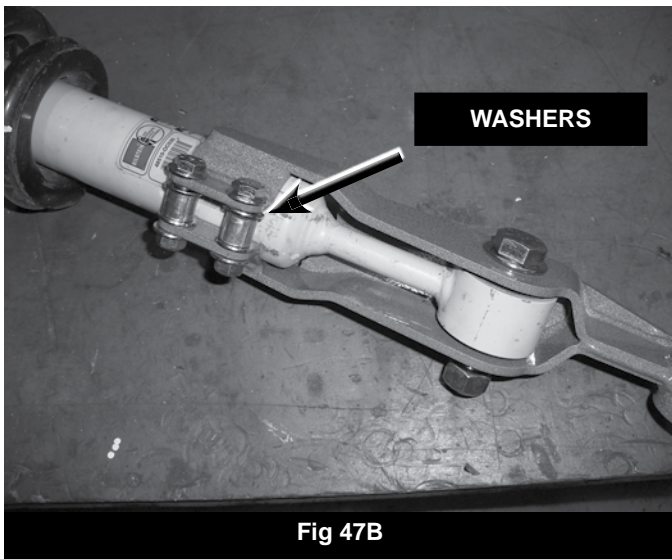

Fig 47B
64. Locate the provided 0.625 OD x 0.560 Long crush sleeves (111). Position the sleeves between the pinch tabs on the upper portion of the strut extension (Fig 47A) and fasten with 3/8" x 1-3/4" bolts, nuts and washers (BP 648). Torque bolts to 25 ft-lbs. Double check that the strut extension is tight on the strut body. For Bilstein Strut equipped vehicles (yellow strut) - place a 3/8" SAE washer (BP 648) on each side of the crush sleeves before installing the pinch bolts (Fig 47B). These are needed to compensate for the slightly larger diameter strut body compared to the standard (black) strut.